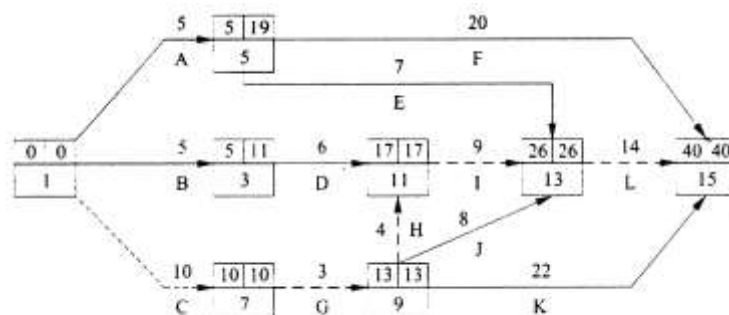

Figure 2-14: Critical path through a network
- The critical path (the longest sequence of activities through the path network is identified as passing through those events having minimum slack in the network. When events are in parallel, the critical path will go through the event with the minimum slack of those events in parallel. It is important to note that the numerical value of the slack can be positive, zero or negative. Figure 2-14 shows the critical path through a network (shown by dotted line).